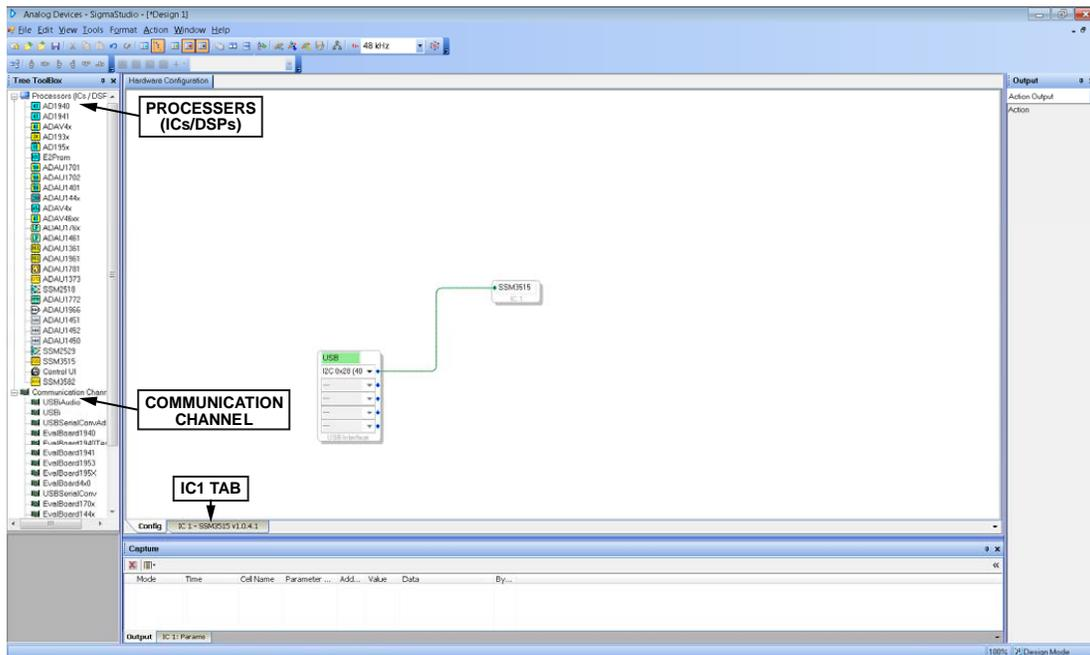

Figure 5. New Project Setup
12. From the **Tree Toolbox**, under **Processors (ICs/DSPs)**, drag the **SSM3515** block to the schematic page; and from under **Communication Channel**, drag the **USBi** block onto the schematic page. Using the mouse, connect the two as shown in Figure 5.
14. Click the **IC 1** tab to bring up the register control screen for the SSM3515 (see Figure 5).